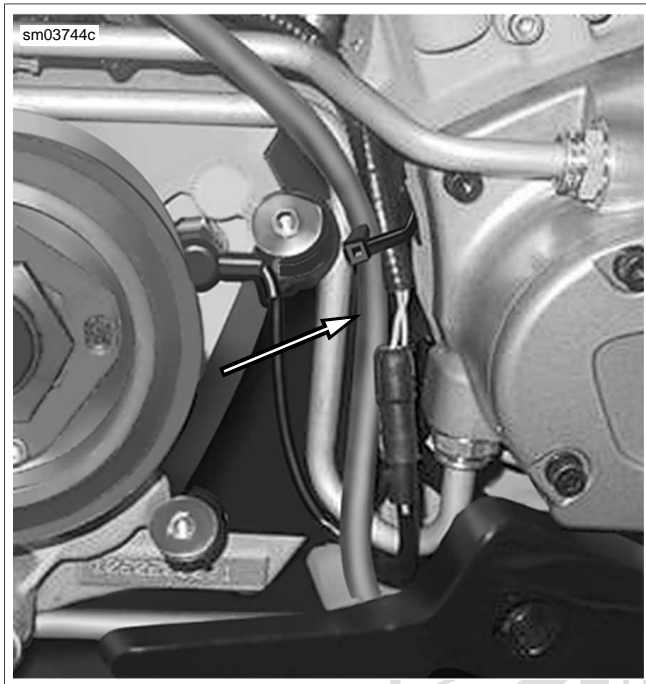

Figure 6-118. Correct routing of Interactive Exhaust Cable
5. See Figure 6-118. Route the interactive exhaust cable behind the oil pump body beside the neutral switch connection and the oil pressure switch wire and install a cable strap.